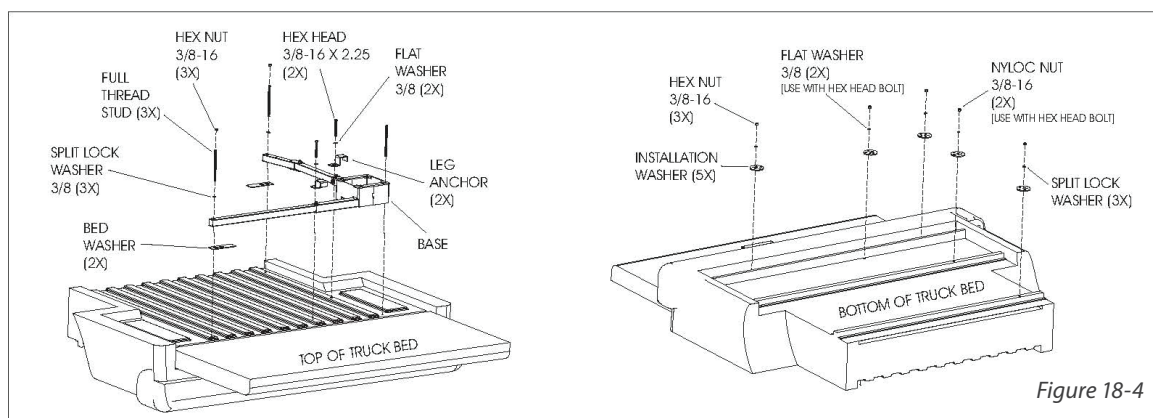

Figure 18-4
6. **Place the Base, Legs, and Anchors back to their locations in the vehicle and fasten tight (28-30 ft.lbs)** with the supplied hardware. Be sure to place all fasteners into the correct locations before tightening [Fig. 18-4]. If included, use the Bed Washers if mounting between the ribs of the truck bed and legs or underneath as additional support.